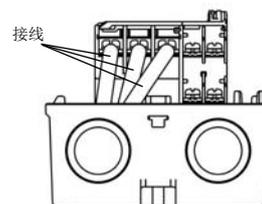

图 6
- The cover of FJ-B25WP may become difficult to be closed. If the load side wiring is moved a little more to the left, the cover can be closed easily.(Fig.6)
- (1) 热过载继电器脱扣时, 在去除过载等异常原因之后, 请打开盖子, 按下热过载继电器的复位棒。
- (2) 盖子上紧固螺钉的推荐力矩, FJ-B09WP~B25WP: 0.8~1.2[N·m], FJ-B32WP: 2~2.5[N·m]。
- (3) FJ-B25WP 可能盖子上不易盖上, 接线时将负载侧的连接线向左靠, 这样盖子就容易盖上。(图 6)
- (4) FJ-B32WP 接地螺钉的推荐力矩为 2~2.5[N·m]。